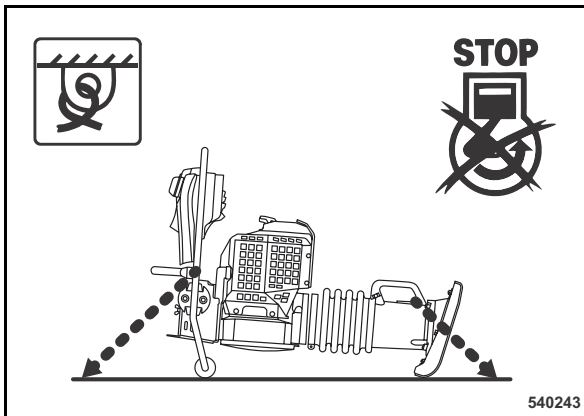

Fig. 29
- Lay down the tamper (Fig. 29) to transport it on the rollers.